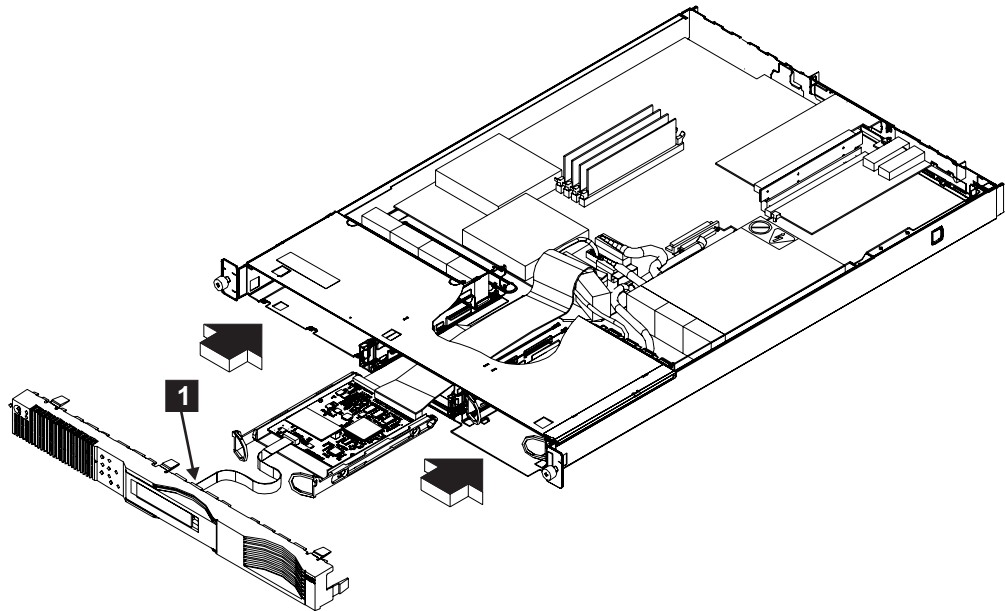

Figure 172. Replacing the front panel
1. Connect the cable **1** to the front panel. See Figure 172 on page 435.